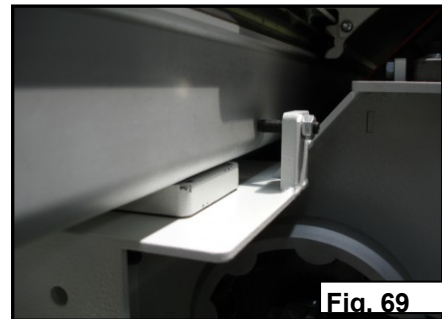
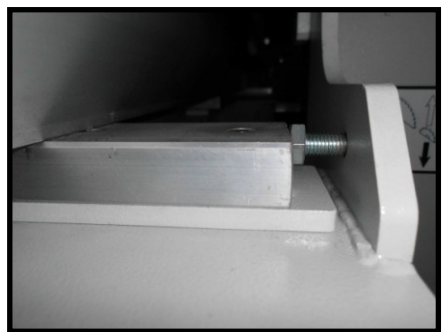

Fig. 69
Fig. 69-1
8. Using the ruler, watch the gap measurement and have your assistant slowly make the adjustment to the parallelism adjustment bolts (Fig. 69) until the gap size is equal to the other side. (Fig. 69-1)
4. Measure the test piece diagonally from corner to corner, at all four corners are same size. **Fig. 69-1**